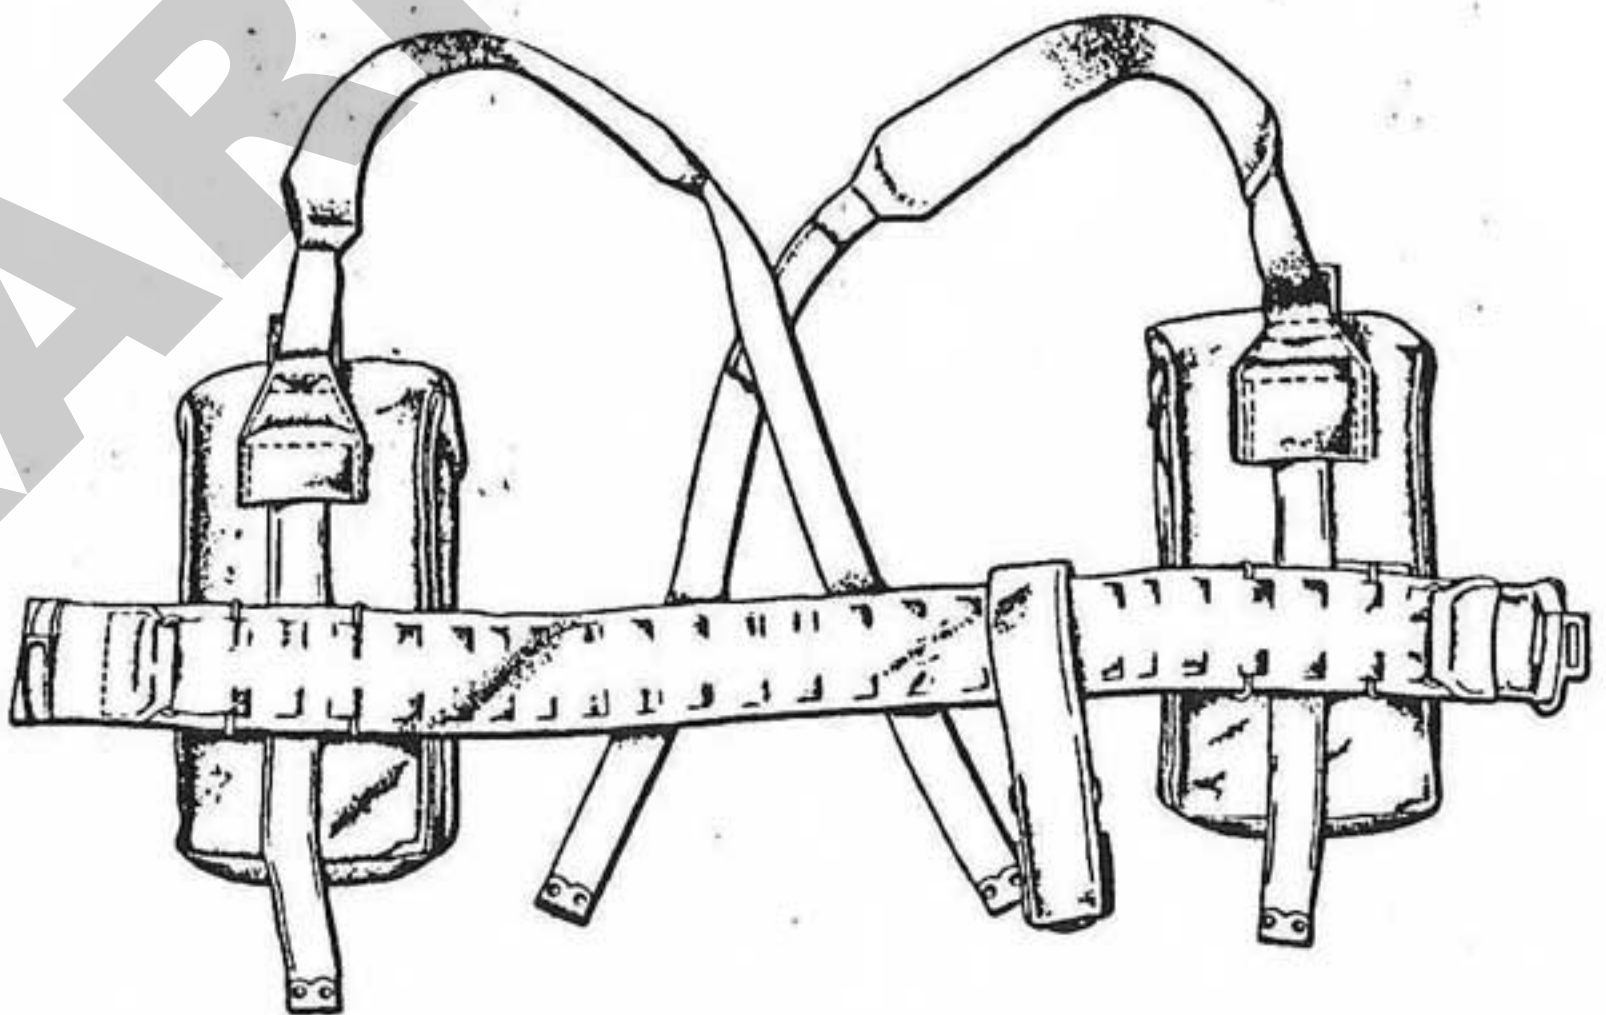

Fig. 5. Fitting of basic pouches and braces
11. The braces carry the main weight of the equipment and its contents. In front, these are secured to buckles on the back of the basic pouches. They are crossed in the small of the back, the one passing over the right shoulder being under that passing over the left shoulder. At the back, the braces are secured to the small buckles of the waistbelt. (See Figs. 5, 6 and 7.)